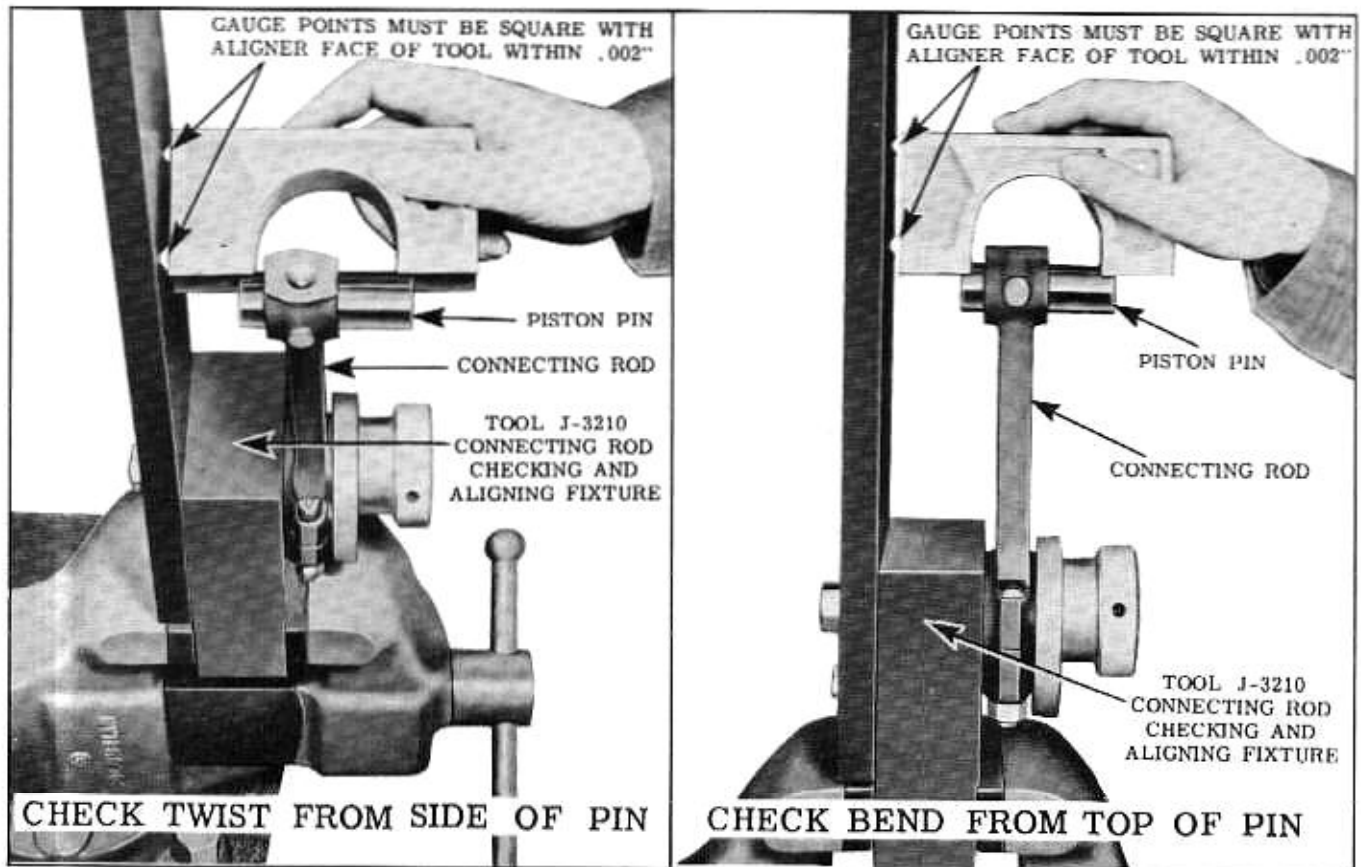

Fig. 6-59 Checking Connecting Rod Alignment
7. Check alignment of connecting rod with Connecting Rod Checking and Alignment Fixture J-3210 (Fig. 6-59). The two points on the gauge must be square with aligner face within .002" at both top and side of pin. (Gauge check at top tests for bend in rod, whereas check at side tests for twist.) If rod is not in proper alignment, it must be replaced. **CAUTION:** Do not attempt to straighten a bent or twisted rod.